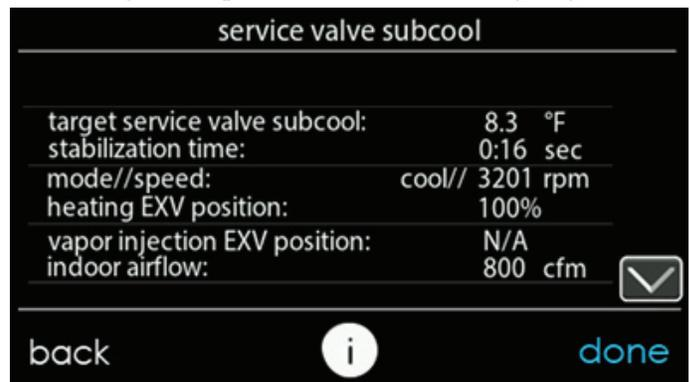

Fig. 15 – Charging Mode Information Screen
- Upon selecting "Start" the system will enter into charging mode. The outdoor compressor and fan will operate at a fixed speed and the UI will display a stabilization time (see Fig. 15). Once this clock reaches zero the charge can be adjusted to meet the target subcooling.